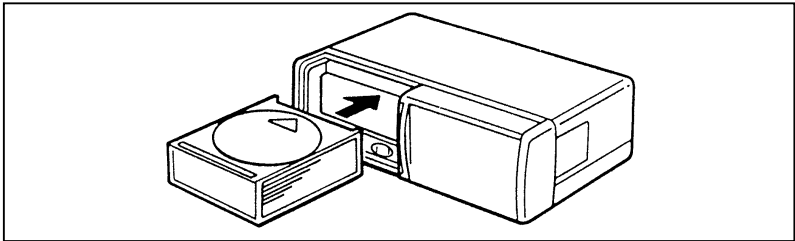

Figure 4
4. Insert loaded disc magazine into chamber unit with the arrow on top of the disc magazine pointing toward the changer (Figure 4). **Make sure magazine is fully inserted into changer.**